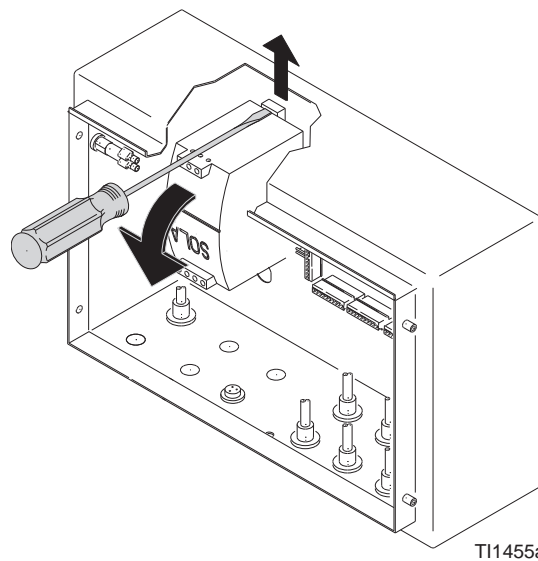

FIG. 17
4. Pull the tab up with a screw driver and remove the power supply from the din rail. See FIG. 17.